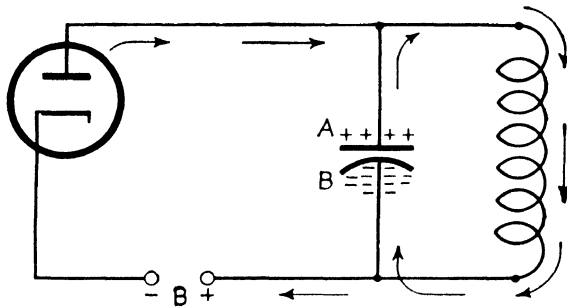

FIG. 428. The surge "breaks" through the tank coil. Electrons now rush through the coil and begin to fill side *B* of the tuning condenser.
The surge breaks through the tank coil. When the pull of the B supply overcomes the back pressure of the tank coil, the first electron surge flows through the tank coil. The tank-coil pull empties side *A* of electrons and loads them on side *B* (see Fig. 428). Side *A* is now positive and side *B* negative.
1. When side *B* of the tuning condenser in Fig. 428 is negative, what is the charge on the plate? What charge does the plate produce on the grid?
4. Show the current flow in the grid circuit when side *B* of the condenser in the plate circuit is negative, as in Fig. 428.